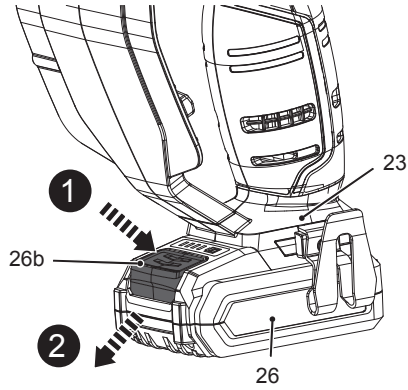

Fig. 10
2. Press the release button (26b), then remove the battery pack (26) from the battery docking port (23) (Fig. 10).